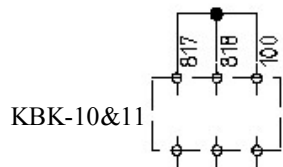

Figure-7a: bridging of top and bottom limit switches
- Remove the bridging made for correction switches 817 and 818. (See Figure-7a)